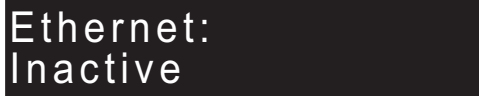

Figure 37. Ethernet mode
7. Keep pressing and releasing the up or down button until the Ethernet option is shown on the front panel display. Line 2 of the front panel display shows the message Inactive. This message shows that, although an Ethernet connection is available, it cannot yet be used (see Figure 37).